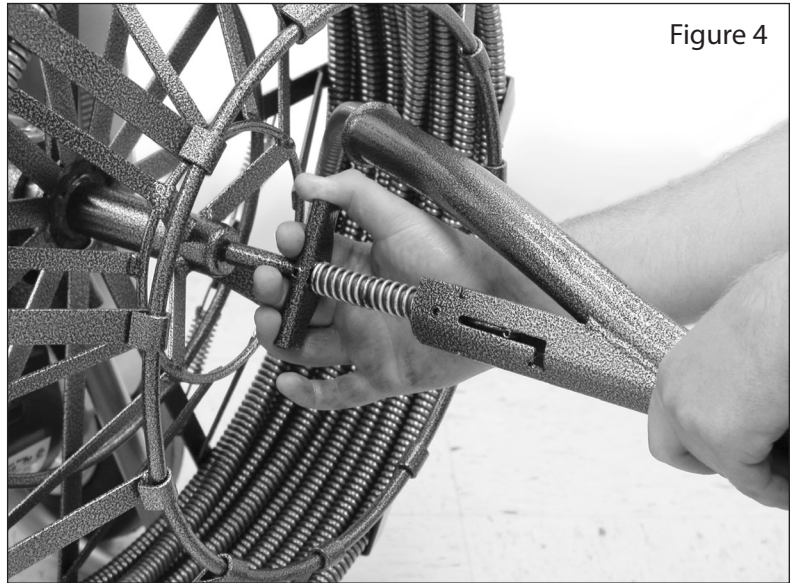

Figure 4
- ▶ With the new J-Lock style revolving arm you can lock the center shaft back and out or your way at anytime during assembly. However, release the arm out of the J-Lock in this step. (See Figure 4).